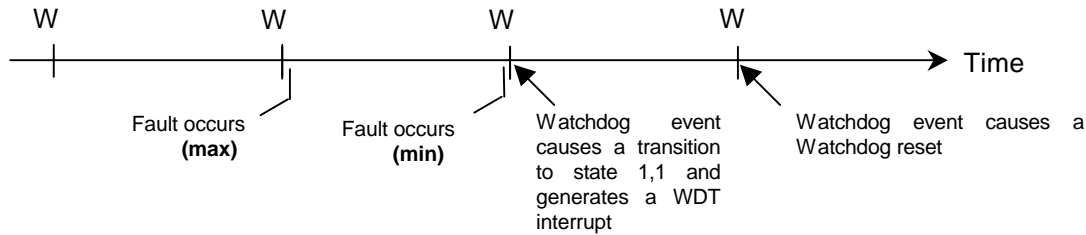

FIGURE 6. Time until a Watchdog Reset for Method 1
For method 1, the minimum and maximum time from a fault occurring until a WDT reset occurs, based on programmed Watchdog Periods (WP), are 1 to 2 WPs; based on the point during the WP when the fault occurs. This is shown graphically in Figure 6.